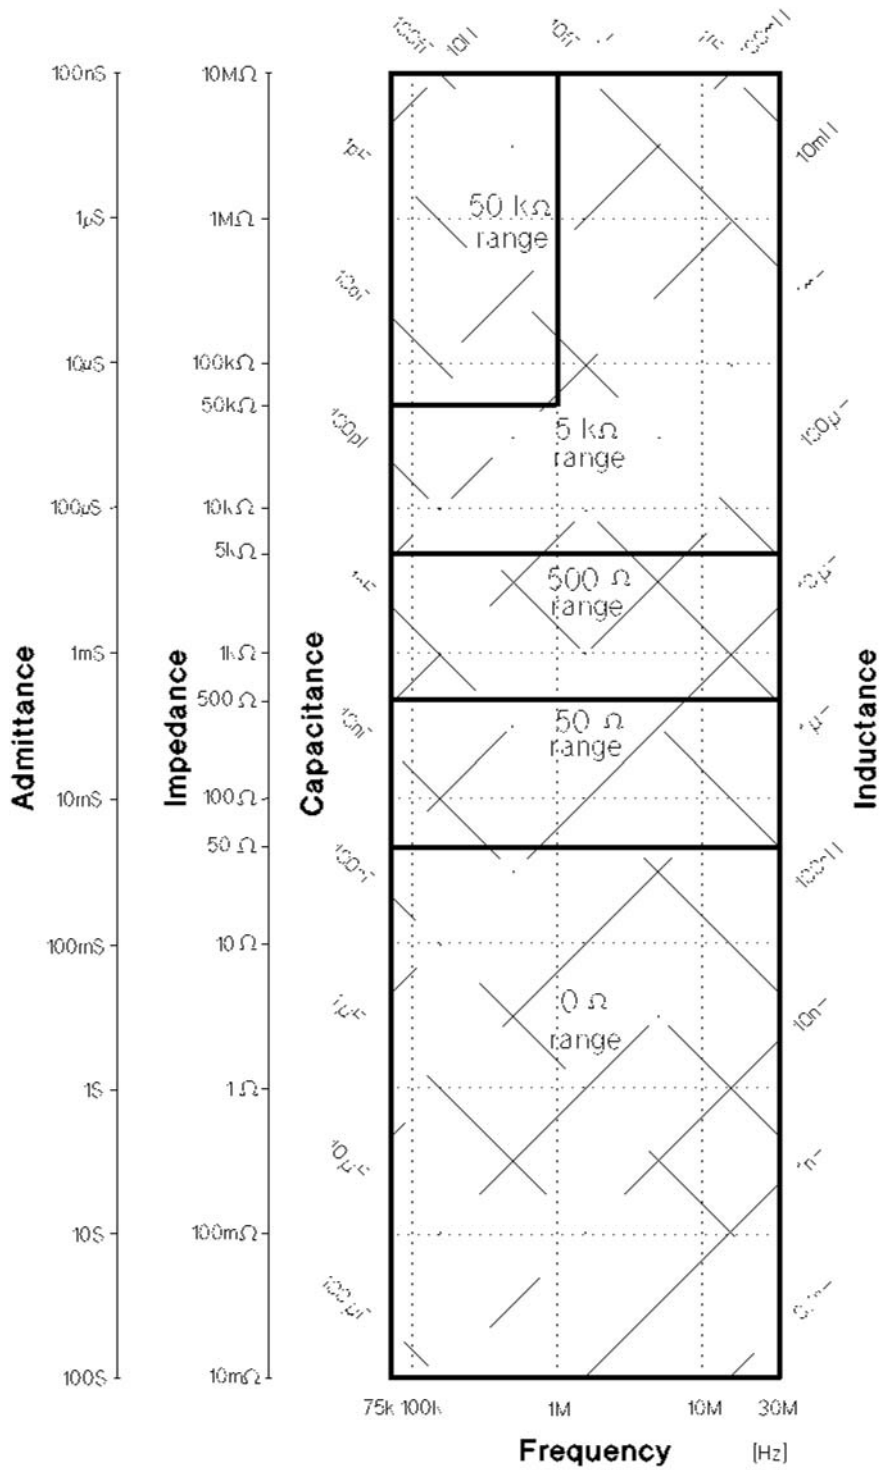
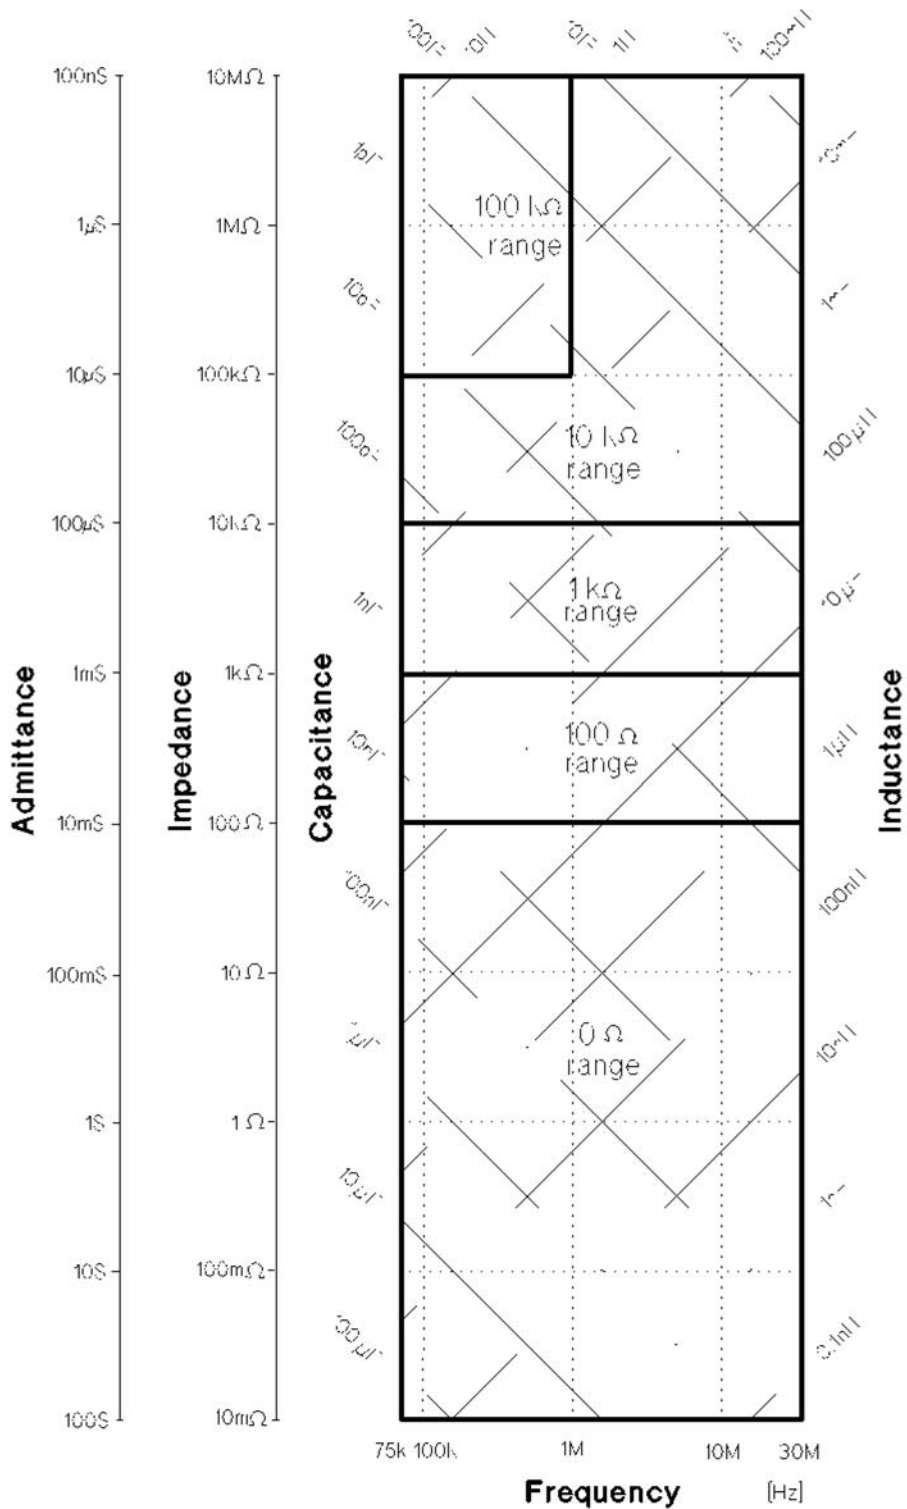

Figure 1-1. Effective measurement range (oscillator level $\leq 1 V_{rms}$)
Figure 1-2. Effective measurement range (oscillator level > 1 V_{rms})
- The optimum measurement range is selected by matching the DUT's impedance to the effective measuring range shown in Figure 1-1 and Figure 1-2. (For example, if the DUT's impedance is 3 k Ω and oscillator level is less than or equal to 1 V, the optimum range is the 500 Ω range.)